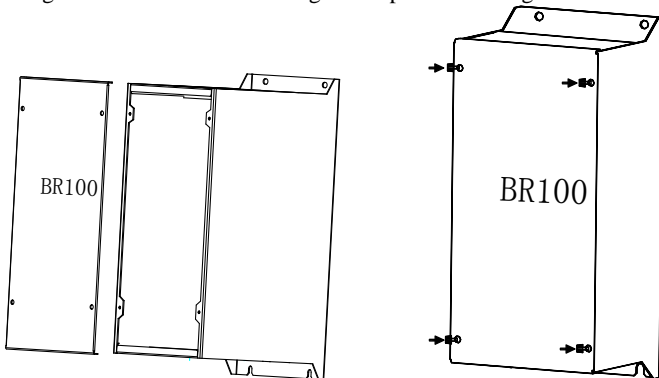

Figure 5-2 Front Cover Assembly
- Assemble the cover in opposite direction and by opposite steps, and tighten the screws after wiring is completed. See Figure 5-2.